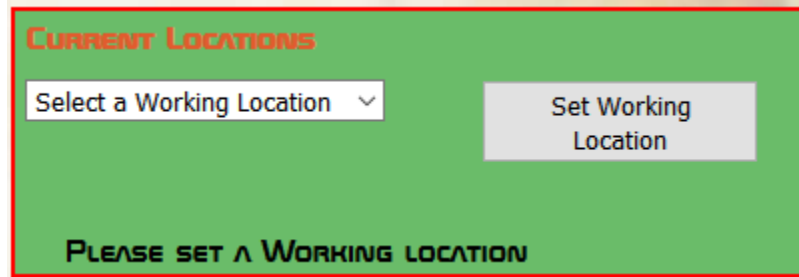

Fig. 3
1. After adding your first location the “Set Your Working Location” feature will become available to you. (See fig. 3)